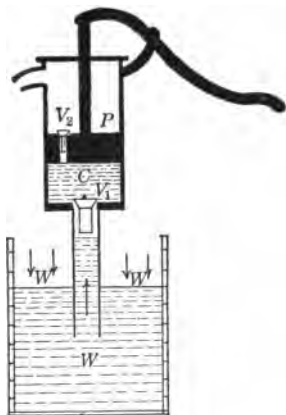

FIG. 57. — Lift pump (for shallow wells).
64. The Lift Pump. The *lift*, or *suction* pump, Fig. 57, consists of a cylinder C , connected with a pipe which extends down into the well W . A piston P is moved up and down in the cylinder by means of the pump-handle. As P moves upward with valve V_2 closed, a partial vacuum is